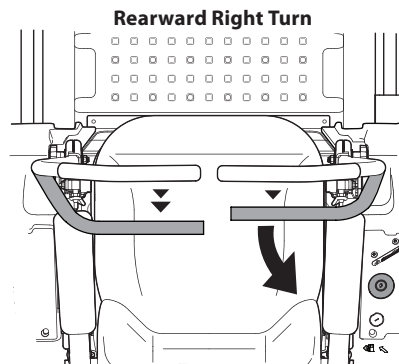

Figure 3-10
2. To turn to the right while traveling in reverse, move the right drive control lever forward of the left lever. See Figure 3-10.